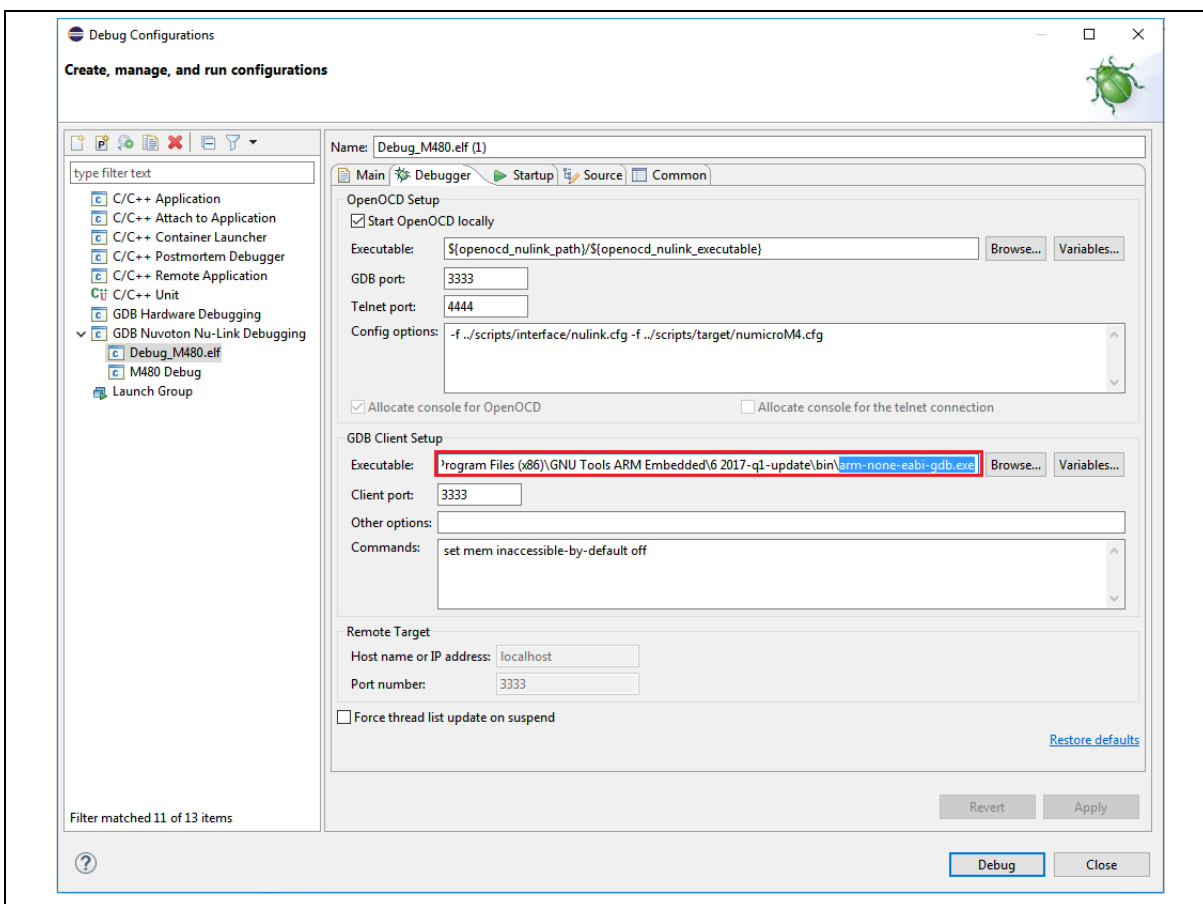

Figure 4-29 Locating the GDB Executable
4. Locate the GDB executable in the debug configuration (referring to Figure 4-29).